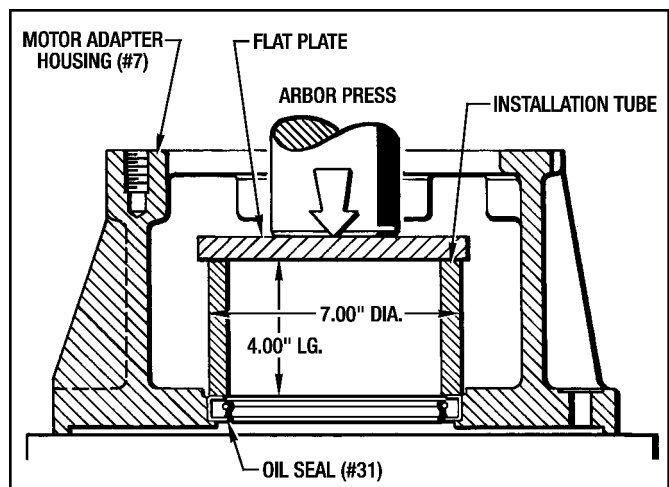

Figure 7.15 - Installing Oil Seal for MSB12
5. Press the new Oil Seal (#31) into the bore with an arbor press as shown in Figure 7.15.